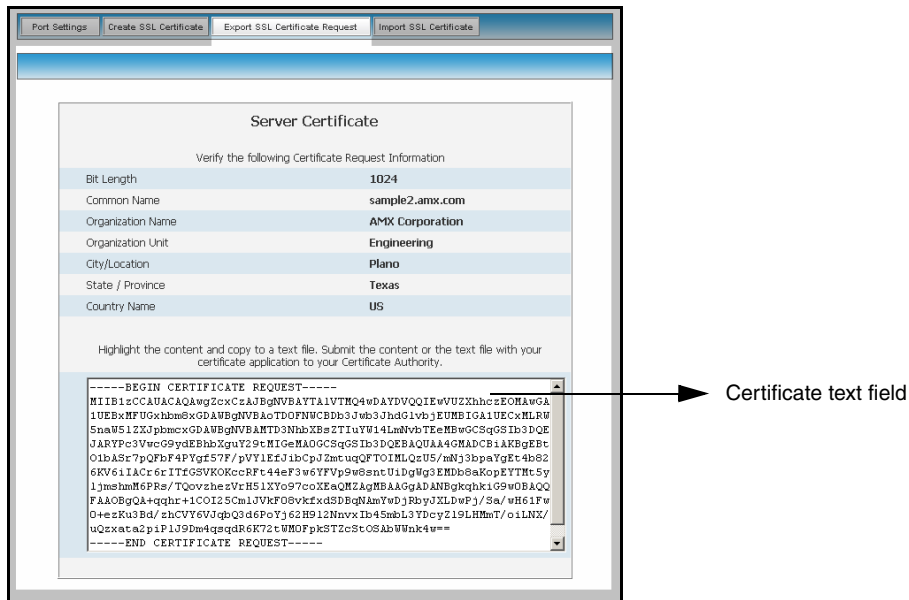

FIG. 50 Export SSL Certificate dialog
2. Click the **Export Certificate Request** button to display the certificate text file within the Server Certificate page (FIG. 50).